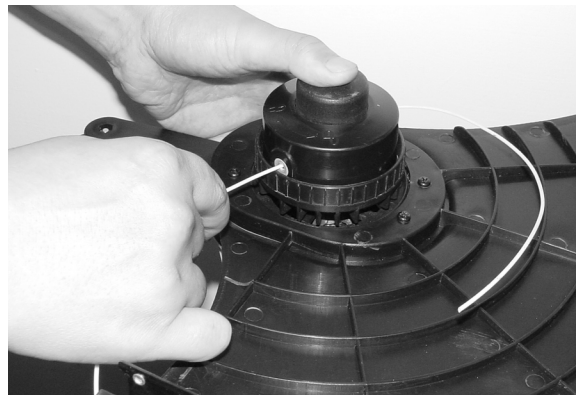

Fig. 9
1. Before starting the grass-trimmer for the first time, check that the nylon line touch or pass over the line-cutting blade. If they are not long enough, press the bump knob and, at the same time, pull the nylon line. (Fig. 9).